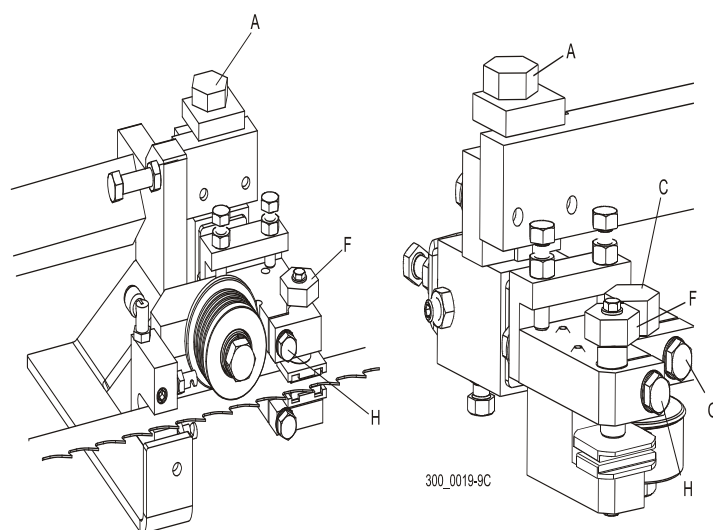

FIG. 3-40
See Figure 3-40. Optional Roller/Block Guides: Turn blade guide roller bolt (C) to move the roller so it is 1/16"-1/8" from the back edge of the blade and tighten clamp bolt (G). Turn blade guide assembly bolt (A) clockwise to raise the bottom guide block up until it touches the blade, but does not deflect it upward. Turn top guide block bolt (F) clockwise to move top block down until it touches the blade, then back 1/4 turn. Tighten clamp bolt (H). Repeat for other blade guide assembly.